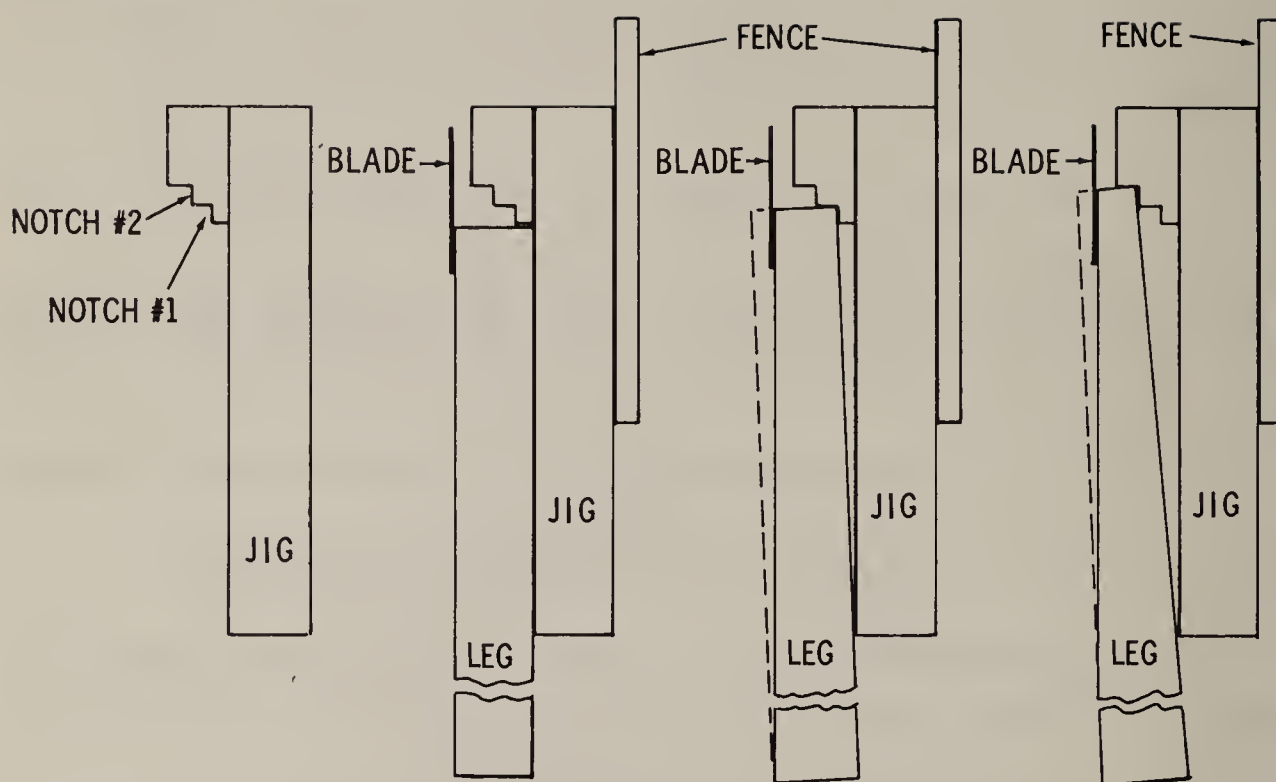

Fig. 24. Method of cutting square tapers, such as required for table legs, using equally raised notches attached to block as shown.
Tapering Square Legs—Square table legs can be tapered by using a template such as shown in Fig. 24 in the following manner:
2. Cut the taper on two adjacent sides with the end of the stock in the first notch as shown in Fig. 24.